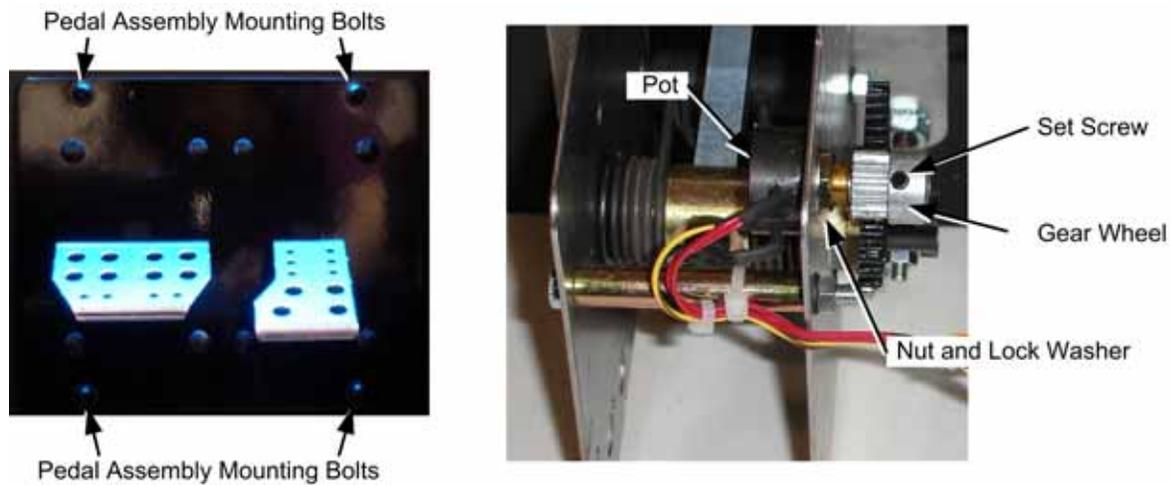

Figure 11. Pedal Assembly Details
2. Remove the four (4) 1/4-20 Security Torx bolts that secure the pedal assembly to the cabinet, as shown by the arrows in the first part of Figure 11.
To replace a pot, refer to Figure 11 and perform the following steps:
2. Using a 7/64 Allen wrench, loosen the set screw from the gear wheel and remove the gear wheel, as shown in Figure 11.